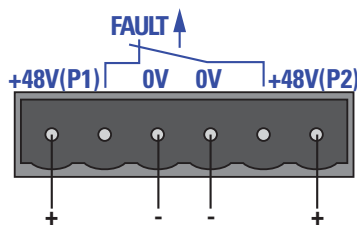

Figure 21: Connecting the PoE voltage at the 6-pin terminal block of the RS22/RS32 devices
- ▶ The signal contact (“FAULT”, pin assignment of terminal block see figure 21) is used to monitor the device function, and thus supports remote diagnostics. You can specify the type of function monitoring in the management.